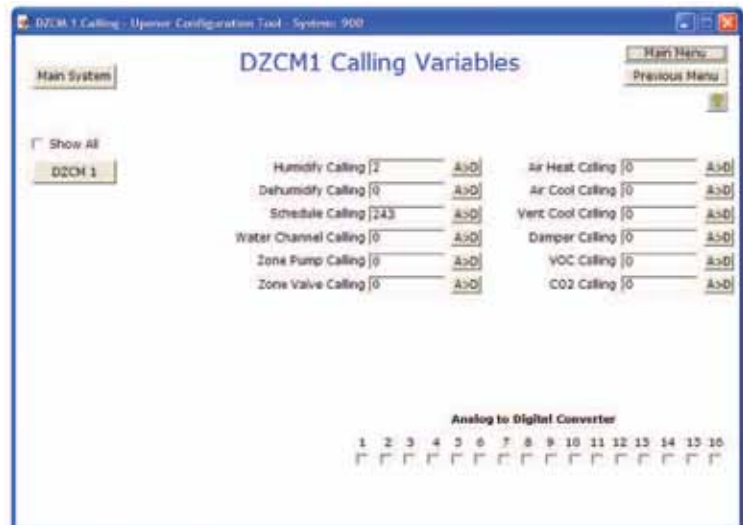

Figure 4.1-7: DZCM Calling Variables
- Click on the DZCM button (DZCM 1 through DZCM 12) to open the DZCM Calling Variables screen for that particular DZCM. **Figure 4.1-7** shows an example for DZCM 1.